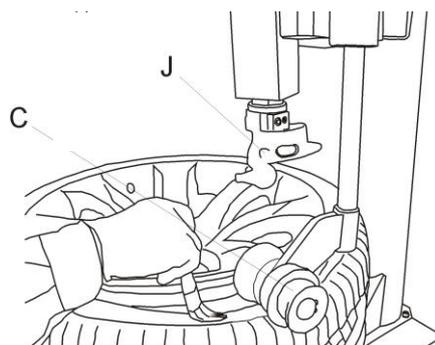

Fig 23
1. Press tyre with right pressing roller C,G to a position 3cm lower than rim edge, lubricate tyre bead, rotate turntable, lift roller C,G. (Fig 23)